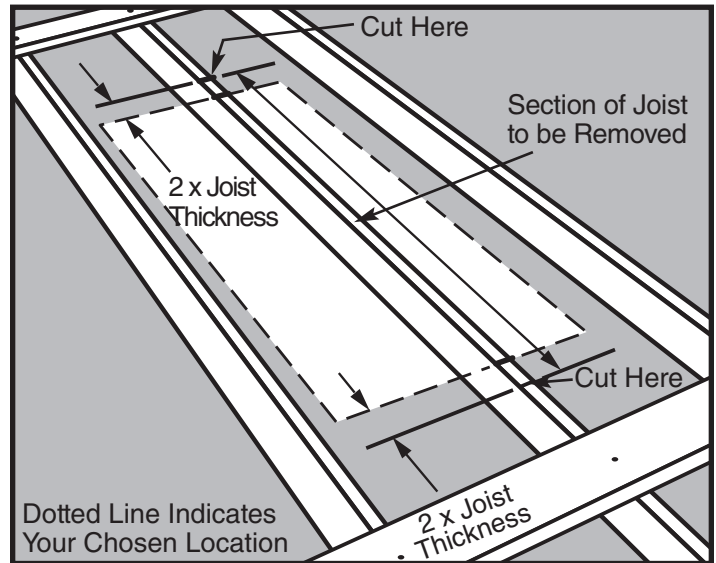
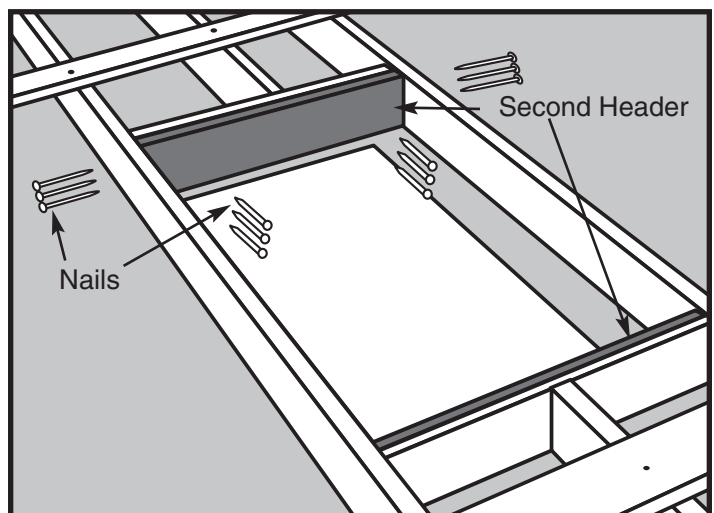

Figure 10
Figure 16
**STEP 4.** Determine where the joist(s) should be cut. Figure 10 shows where to mark the joist(s) that span your chosen location. Note that the joist(s) should be marked back from the edge of your location a distance of 2 times the joist thickness (usually three inches). This leaves room for two joist-sized headers to be placed against each end of the cut joist(s) (See Figure 16 on page 19).
- STEP 6.** Place a second header against the first header and nail it to the first header with (3) 16d nails between each joist (See Figure 16).
- STEP 7.** Drive (3) 16d nails through the joists into each end of the second header (See Figure 16).